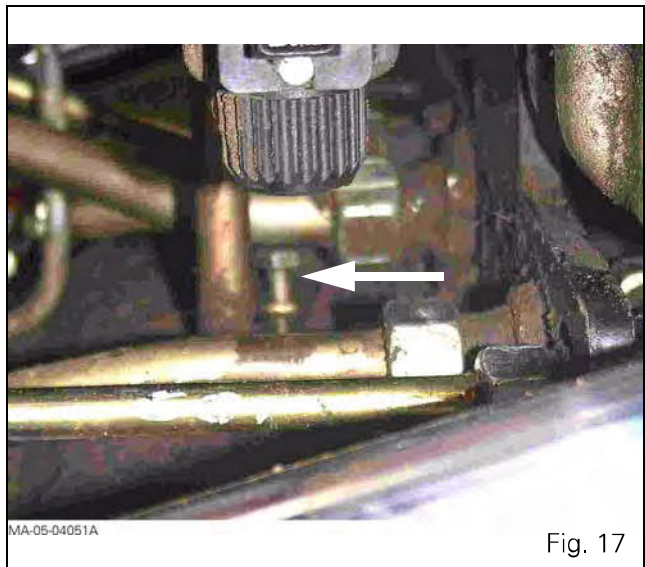

Fig. 17
17. Take out the screws from the spool valve support. (Fig. 17).